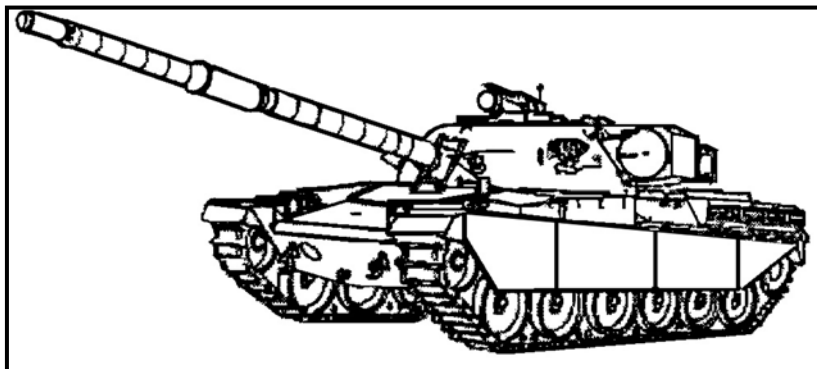

Figure H-1. British main battle tank, Chieftain Mk 5.
(1) **British Main Battle Tank, Chieftain Mk 5** (Figure H-1).